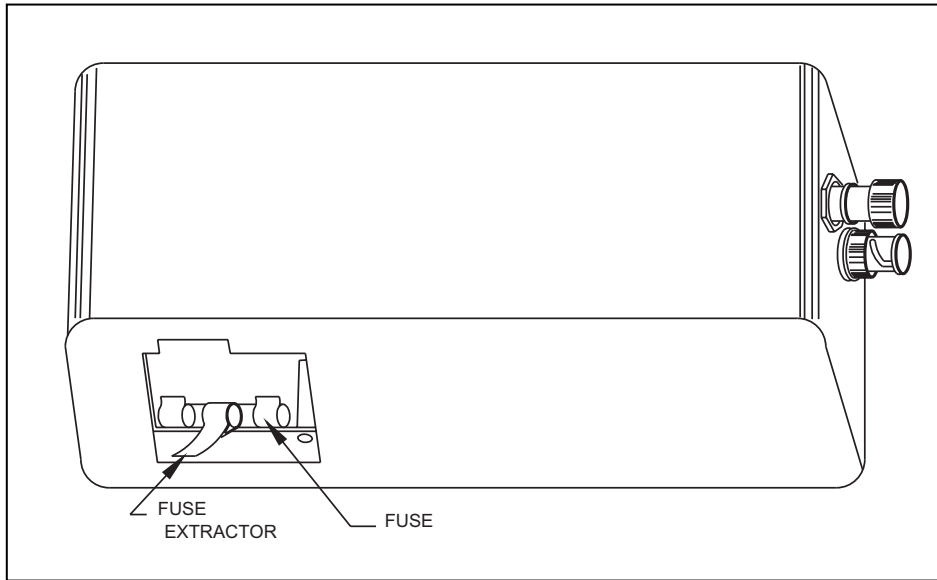

Figure 4-2. The Model 35050A Dosimeter Fuse Replacement
3. Look inside the battery pack compartment and find the fuse extractor. It is a loop of plastic tubing held captive by the fuse body & fuse clips (see Figure 4-2). Grasping the fuse extractor tightly between your index finger and thumb and as close to the fuse as possible, push away from you until the fuse pops out. Pull the fuse out of the instrument.